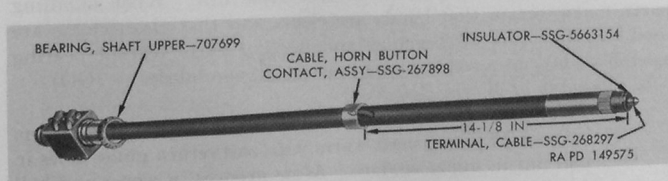

Figure 197. Construction of steering shaft assembly.
(a) Unsolder cable terminal (fig. 197) at upper end of shaft. Remove terminal and fiber insulator.
- (b) Pull horn button contact cable assembly (E) from shaft. Remove horn button contact cable assembly from shaft. Shaft upper bearing may then be removed from shaft.
- (d) Install horn button contact cable assembly on shaft to dimension shown in figure 197. Insert wire through shaft; then install fiber insulator. Solder terminal to end of cable. Remove all surplus solder.
- (1) Examine rack teeth of worm ball nut (Y) for scuffing, scoring, or wear. Check holes and passages for obstructions. Thoroughly examine worm ball nut for external and internal damage. Replace worm ball nut if damage explained exists.
- (2) Check all of the  $\frac{3}{32}$ -inch worm balls (X) for flat spots, checking, wearing, or damage. Balls should be the same size within 0.0001 inch.
- (3) Examine ball return guides (W) for distortion. Place two halves together and try action of balls in the two halves. Replace guides if any restriction exists. Replace ball return guide clamp (V) if distorted.